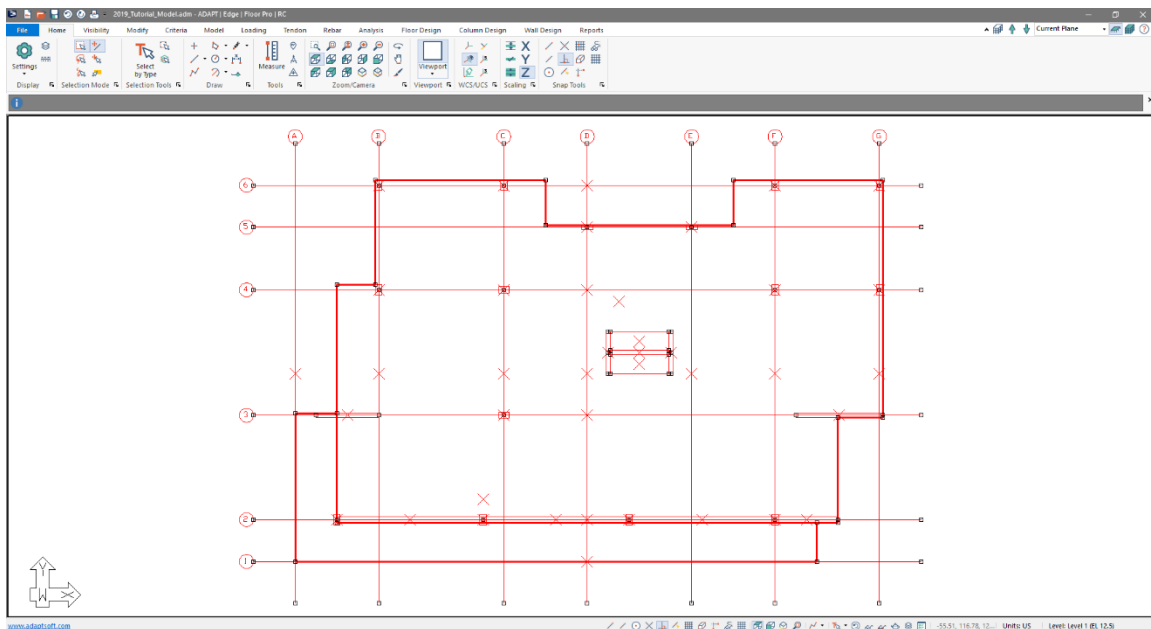

Figure 3-2
- Click on the *Zoom Extents*  icon. The user should see all items modeled highlighted in red to denote they have been selected as shown in **FIGURE 3-2**.